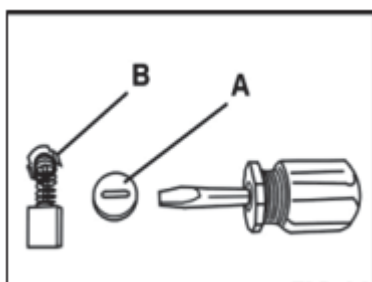

Fig.25.
To replace and check regularly. Carbon brushes must be replaced when worn down to 6 mm closest to the spring. And keep carbon brush clean and sliding freely in the holder. 2 carbon brush should be replaced at same time, please use the carbon brush made by original factory. Use a screwdriver to remove the brush Cap (A), take out the carbon brushes (B) insert new carbon brushes and secure the brush holder caps. As shown in Fig.25.